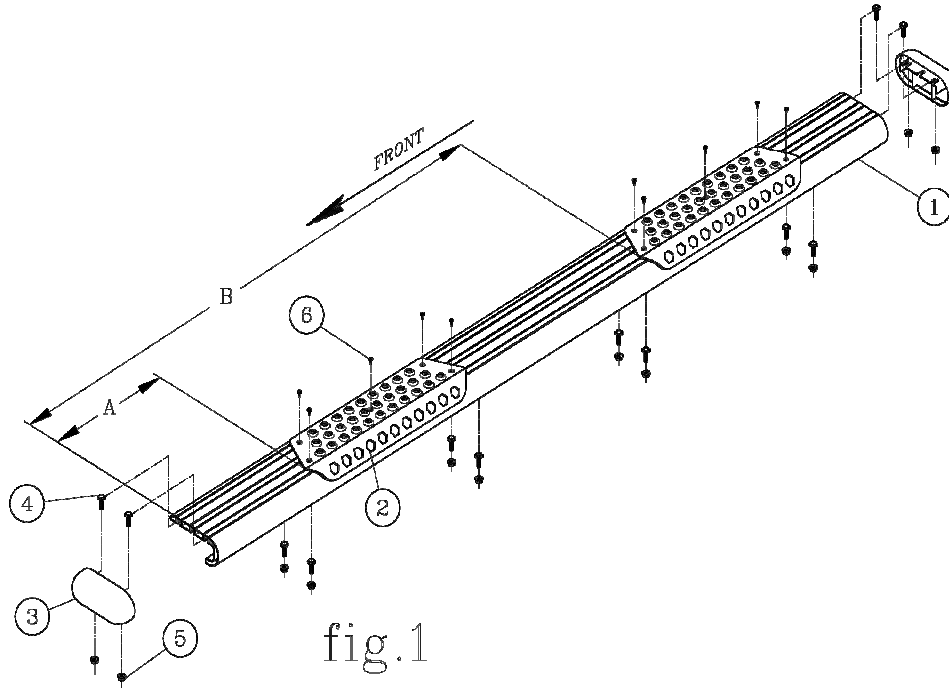

fig.1
3. BEFORE ATTACHING THE O-MEGA STEPS TO THE BRACKETS, PLACE THE STEP PADS (ITEM #2) ON TOP OF THE STEP PLATES. USE THE TABLE ON SHEET #2, AS A GUIDE TO POSITION THE STEP PAD FOR YOUR PARTICULAR VEHICLE. WHEN INSTALLING THE PADS ON THE STEPS, DRILL (5) 1/8" HOLE USING THE STEP PAD AS A GUIDE. ATTACH WITH (5) 8-18X1/2" TEK SCREWS (ITEM #6) PROVIDED. REPEAT FOR ALL STEP PADS.
5. INSTALL THE END CAPS (ITEM #3) AS SHOWN IN *fig. 1*, TIGHTENING THE NUTS TO 5 LB FT.
2. ON THE LEFT SIDE OF THE VEHICLE INSTALL TWO 1.5" ISOLATOR WASHERS (ITEM #3) THE STEP MOUNTING BRACKET (ITEM #2) AND TWO M8-1.25 FLANGE NUTS (ITEM #4) ON THE FACTORY PROVIDED STUDS ON THE INSIDE OF THE ROCKER PANEL AS SHOWN IN FIGURE 1.